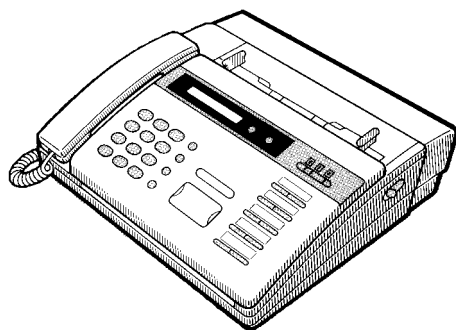

Fig. 2-1. A typical fax machine
Today's fax machine can send letters, pictures, cartoons, photos, and almost anything that you can feed through its slot. Shown in Fig. 2-1, the typical machine consists of five parts: (1) a scanner which can scan a printed page and convert it into an electrical signal, (2) a printer which can take such an electrical signal and print it on paper, (3) a telephone and dial which is used to call other machines, (4) a modem which couples the digital circuitry to the telephone line, and (5) a microprocessor which ties it all together and makes it work.